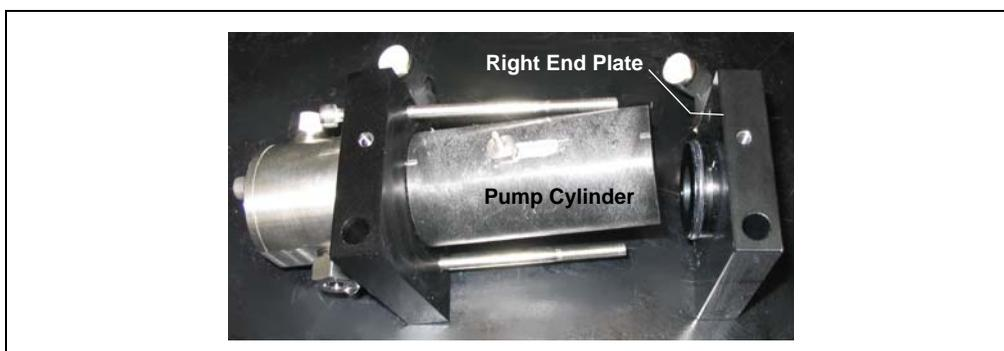

Figure 5-14. Removing the Pump Right End Plate
3. Remove the right end plate from the pump cylinder (see Figure 5-14).